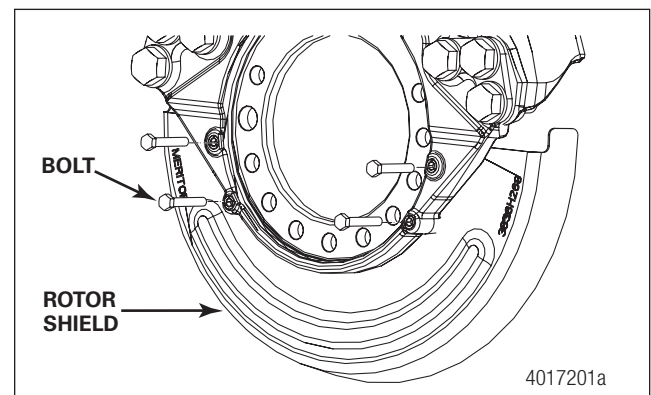
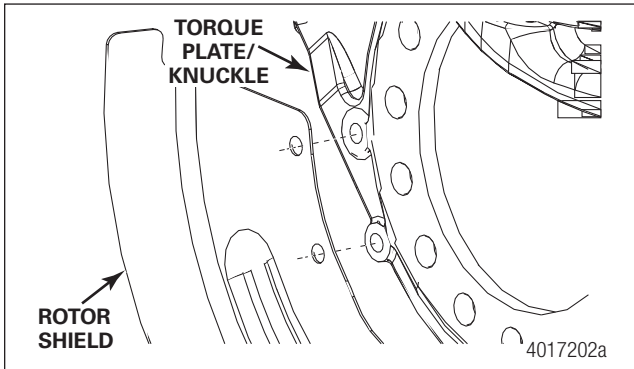

Figure 5.2 Rotor Shield Retaining Bolts
Figure 5.3 Rotor Shield
1. Remove the shield retaining bolts and remove the shield from the torque plate, axle, or knuckle. Figure 5.2 and Figure 5.3.
- Once the inspection is complete, reinstall the rotor shield on the torque plate and align the bolt holes. Figure 5.3.
- Insert the rotor shield retaining bolts and start them by hand. Figure 5.3. If the bolts are not damaged, reuse the original bolts. If the bolts are damaged, use new M8x1.25 class 8 bolts of an appropriate length. Figure 5.2.